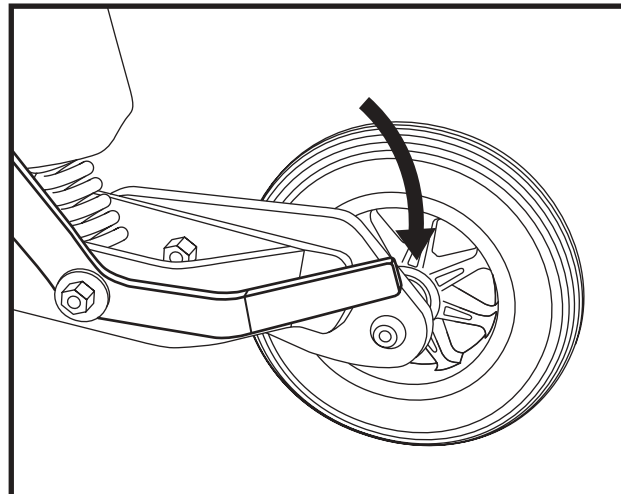

Figure 8. Drive Mode (left side shown)
2. Push both levers downward to engage the drive motors (drive mode). See figure 8.